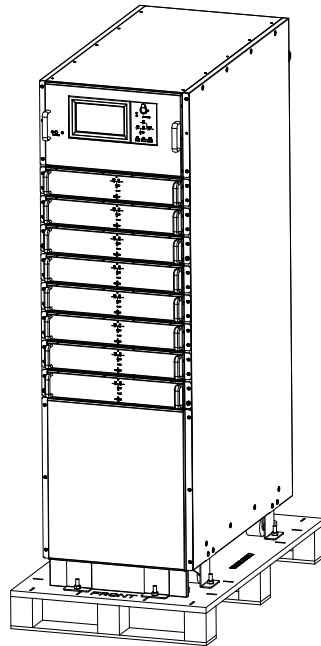

Figure 3-3 Remove the protective foam
- 3) Open the top plate of the steel-edged wooden case with slotted awl and pier, followed by sideboards (see Figure 3-3 ;